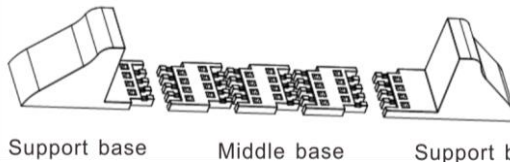

Figure 5-2 Installing the support base with the middle base
- 2) If you choose to connect an external battery cabinet to the UPS to provide additional battery runtime, assemble the middle base and support base together using the connecting buckles, as shown in Figure 5-2.